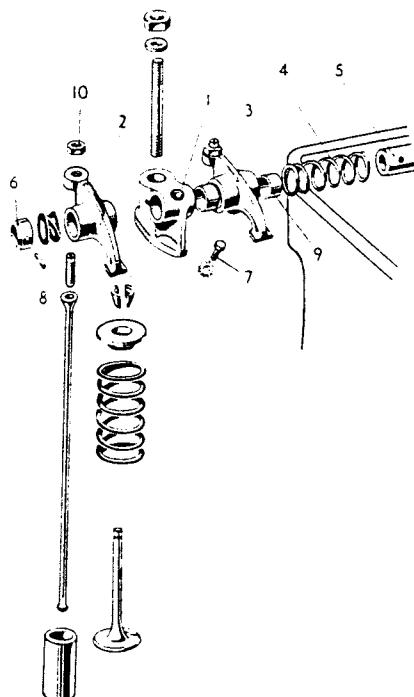

FIG. 11
## Rocker Assembly (Fig. 11)
1. Assemble rockers and springs on shaft as shown in Fig. 11 with pairs of rockers converging towards valve pad ends and with the rear pedestal, which has the oil feed drilling, located at the radially drilled and tapped shaft end.